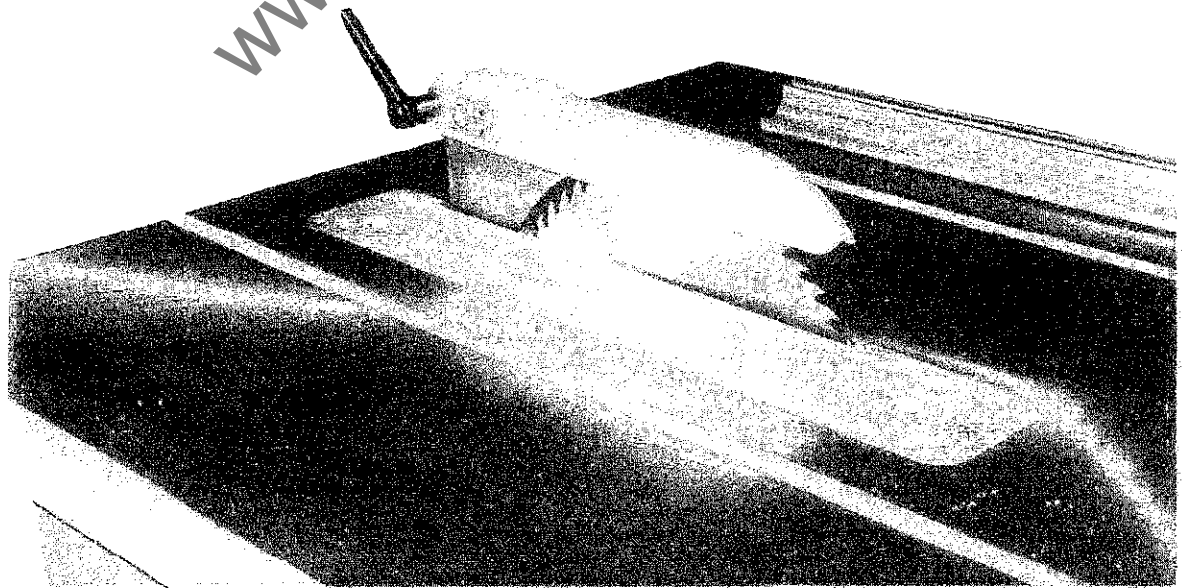

FIG. 9
- c) Fit sawguard as shown in FIG.9.